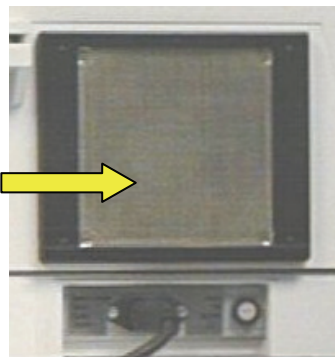

Figure 82 The air filter
7. Loosen the grub screw at the bottom of the lamp holder bracket, as shown in Figure 82.